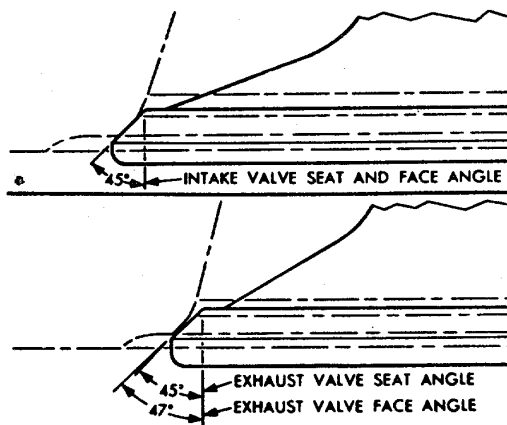

Figure 5-4. Valve Face and Seat Angles
1. The intake and exhaust valve seats and the intake valve face have a 45 degree angle. The exhaust valve face has a 47 degree angle. The valve face and valve seat angles are shown in figure 5-4.